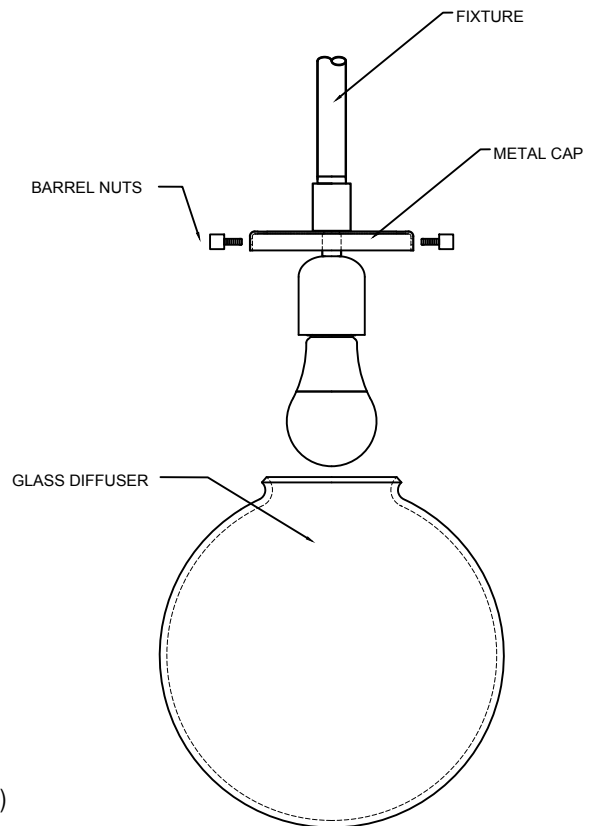

FIGURE-04
- Install glass diffuser to the fixture, fit the glass to the metal cap and secure it by fastening the barrel nut to the metal cap. (See Figure-04)